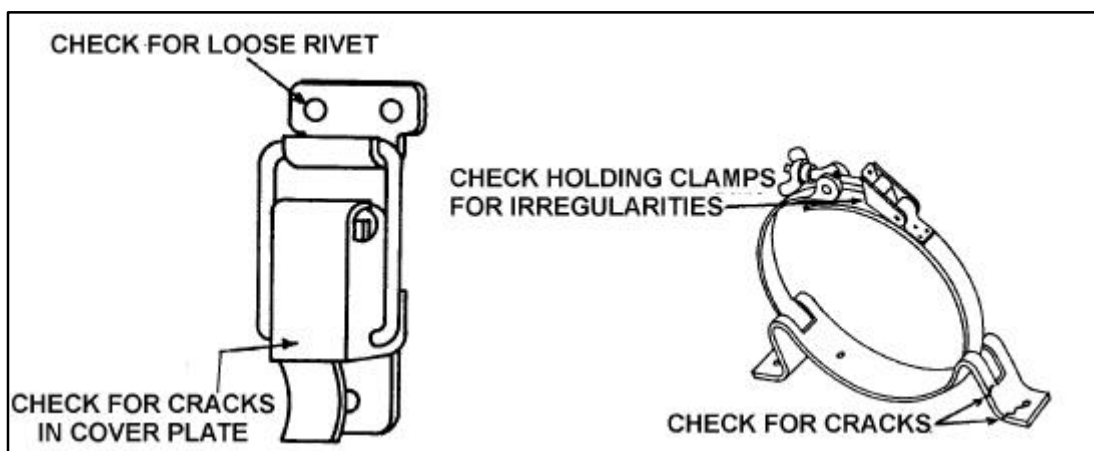

FIGURE 9-15. Cylinder brackets and clamps.
(3) Replace or repair any cylinder mounting brackets that show signs of wear. Visible cracks may be welded in accordance with manufacturer's standards. Replace the cylinder straps or clamps that show wear or abuse. For typical mounting bracket cracks and failure, see figure 9-15.